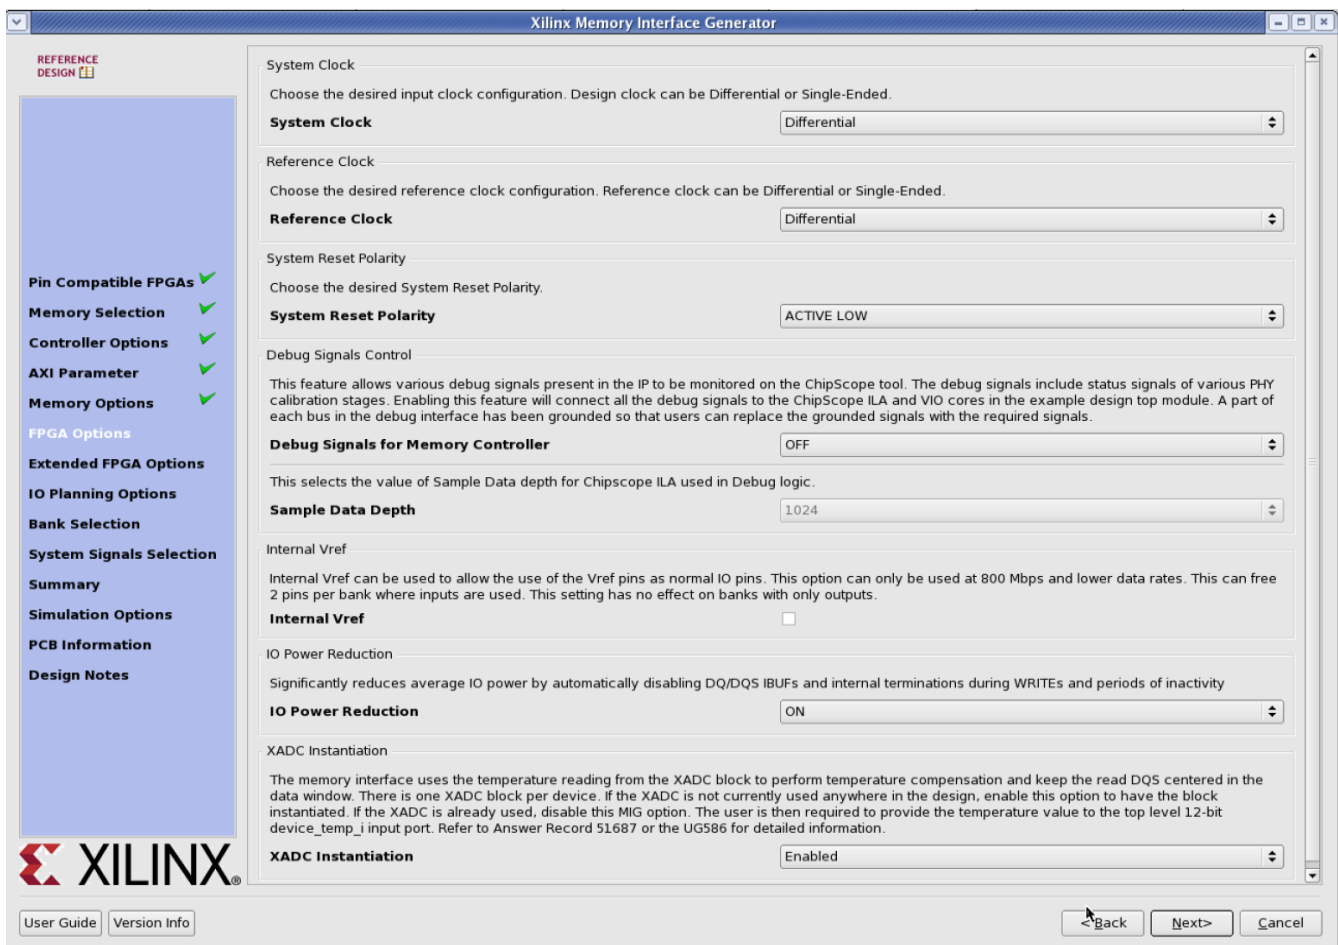

Figure 1-22: **FPGA Options**
Figure 1-22 shows the **FPGA Options** page.
- sys\_clk** – This is the system clock input for the memory interface and is typically connected to a low-jitter external clock source. Either a single input or a differential pair can be selected based on the **System Clock** selection in the **FPGA Options** page (Figure 1-22). The `sys_clk` input must be in the same column as the memory interface. If this pin is connected in the same banks as the memory interface, the MIG tool selects an I/O standard compatible with the interface, such as DIFF\_SSTL15 or SSTL15. If `sys_clk` is not connected in a memory interface bank, the MIG tool selects an appropriate standard such as LVCMOS18 or LVDS. The XDC can be modified as desired after generation.
- **clk\_ref** – This is the reference frequency input for the IDELAY control. The `clk_ref` input can be generated internally or connected to an external source. A single input or a differential pair can be selected based on the **System Clock** selection in the **FPGA Options** page (Figure 1-22). The I/O standard is selected in a similar way as `sys_clk`.
- **sys\_rst** – This is the asynchronous system reset input that can be generated internally or driven from a pin. The MIG tool selects an appropriate I/O standard for the input such as LVCMOS18 and LVCMOS25 for HP and HR banks, respectively. The default polarity of `sys_rst` pin is active-Low. The polarity of `sys_rst` pin varies based on the **System Reset Polarity** option chosen in **FPGA Options** page (Figure 1-22).